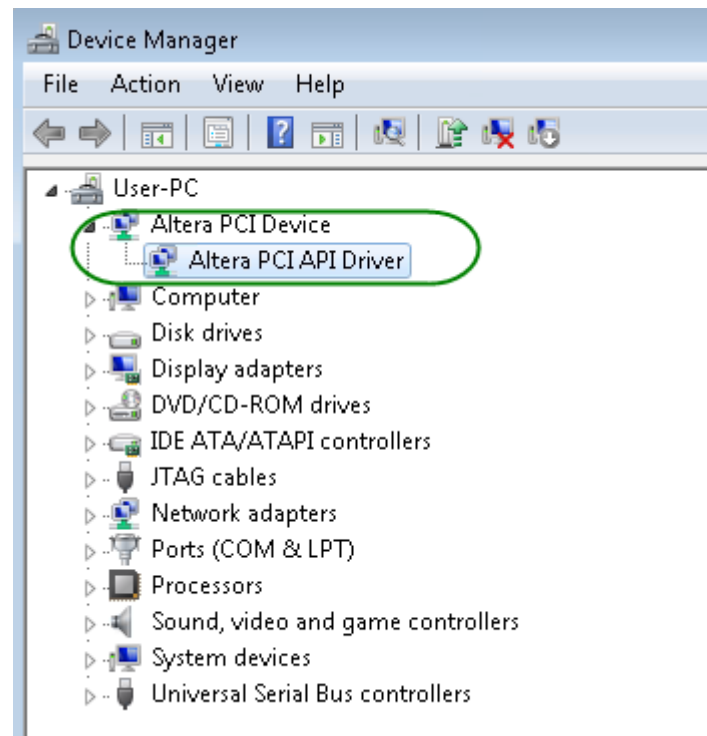

Figure 10 Screenshot for PCIe Driver
5. Make sure the Windows has detected the FPGA Board by checking the Windows Control panel as shown in **Figure 10**.